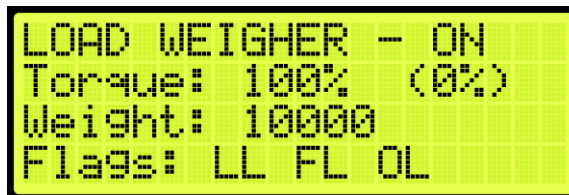

Figure 36: LOAD WEIGHER Menu – 100% Part 1 of 2
12. Verify the Torque is 100% (See Figure 36).